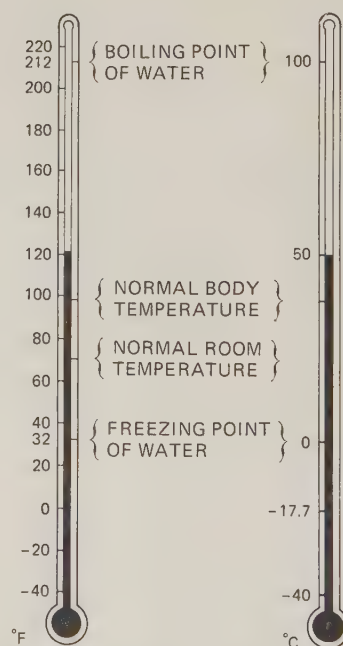

FIG. 8-8 Thermometers comparing Fahrenheit and Celsius (also called centigrade) readings.
**○8-16 THE THERMOMETER** The thermometer (Fig. 8-8) shows a familiar use of the expansion of liquids as temperature goes up. The liquid, usually mercury (a metal that is liquid at ordinary temperatures), is largely contained in the glass bulb at the bottom of the glass tube. As temperature increases, the mercury expands. Part of it is forced up through the hollow glass tube. The higher the temperature, the more the mercury expands and the higher it is forced up through the tube. The tube is marked off to indicate the temperature in degrees.